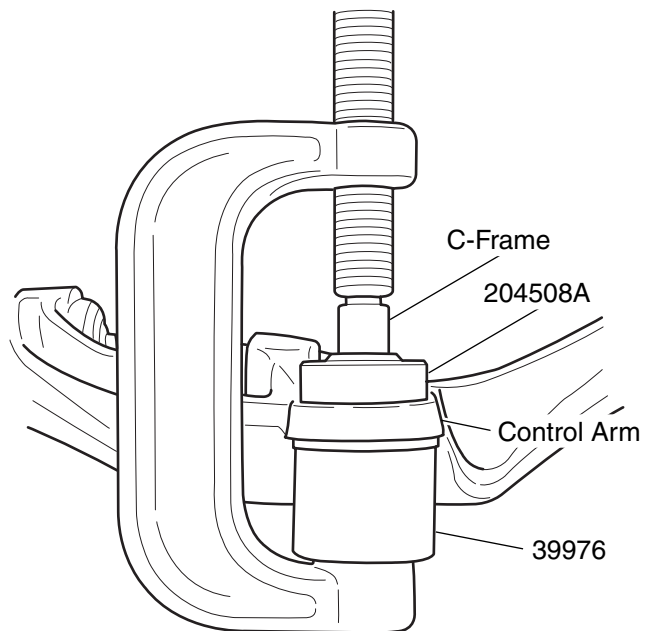

Figure 2. Ball Joint Installation
3. Position 39976 on the ball joint as shown in Figure 2.